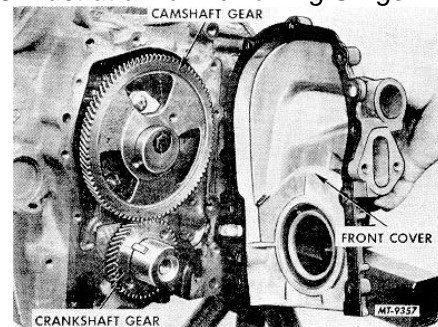

Fig. 34 Illustrating Dowel Sleeves in Block for Cylinder Head
- b. Remove the cylinder head bolts and lift the head off the two locating dowel sleeves, Fig. 34. Remove the cylinder head gasket. CAUTION: Use extreme care when handling to prevent damage to gasket surfaces. Never pry between the cylinder heads and the block, as they have a finished surface and must not be damaged.